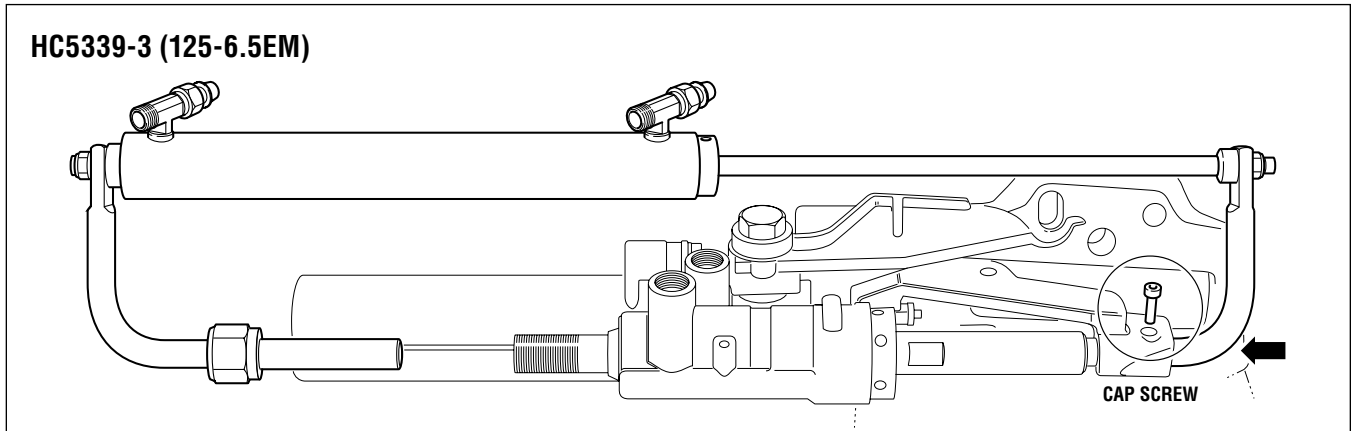

Figure 17.
2. Insert the long rod of the HC5339-3 cylinder into the clevis bracket until the through hole in the rod is aligned with the hole in the clevis bracket. Refer to figure 17.